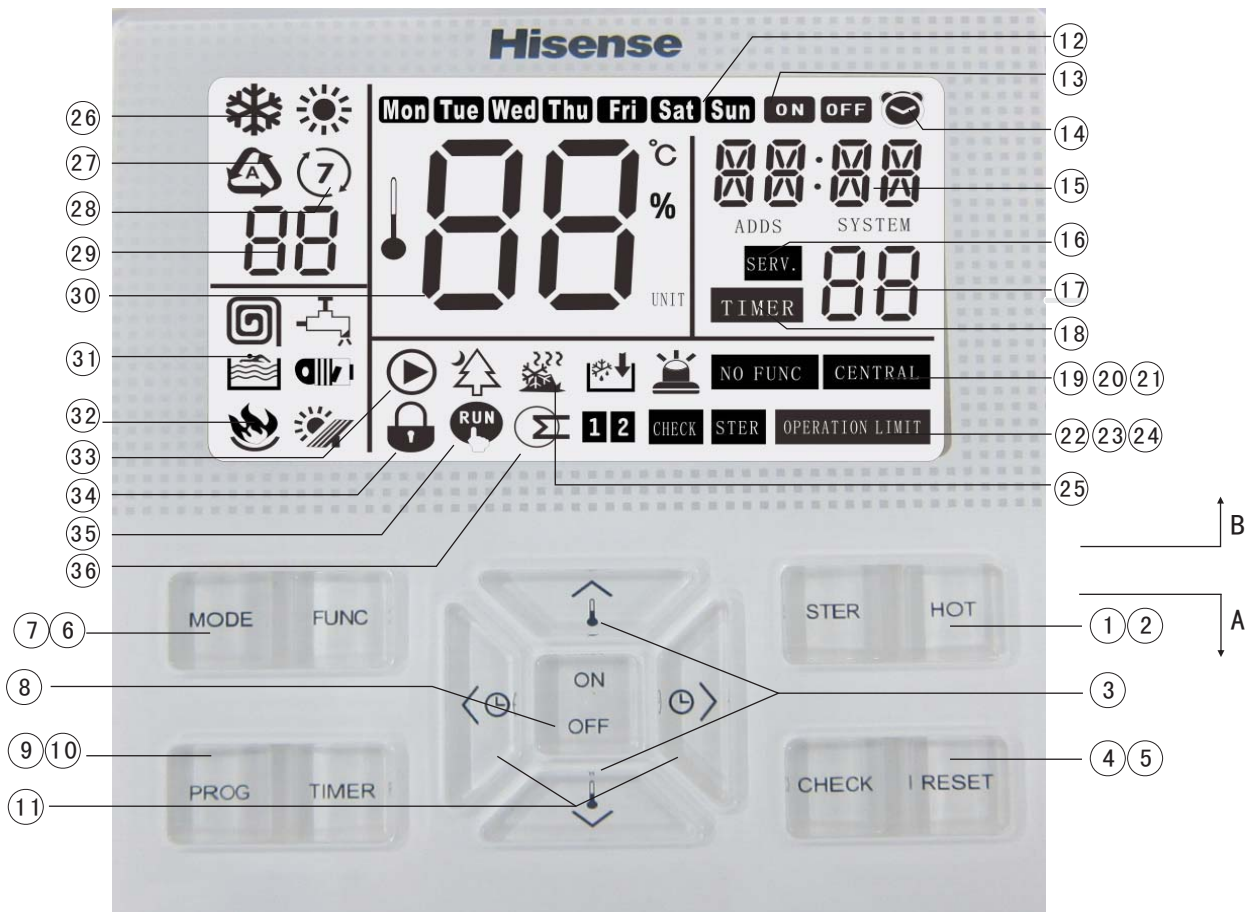

Fig.3.1 Wire Remote Controller
3. Wire Remote Controller (See Fig.3.1.)
Fig.3.1 indicates the LCD displays and operation keys of water module.
For convenience of understanding, Fig.3.1 shows anything that can be displayed. In normal running, only part of icons will display on the LCD screen.